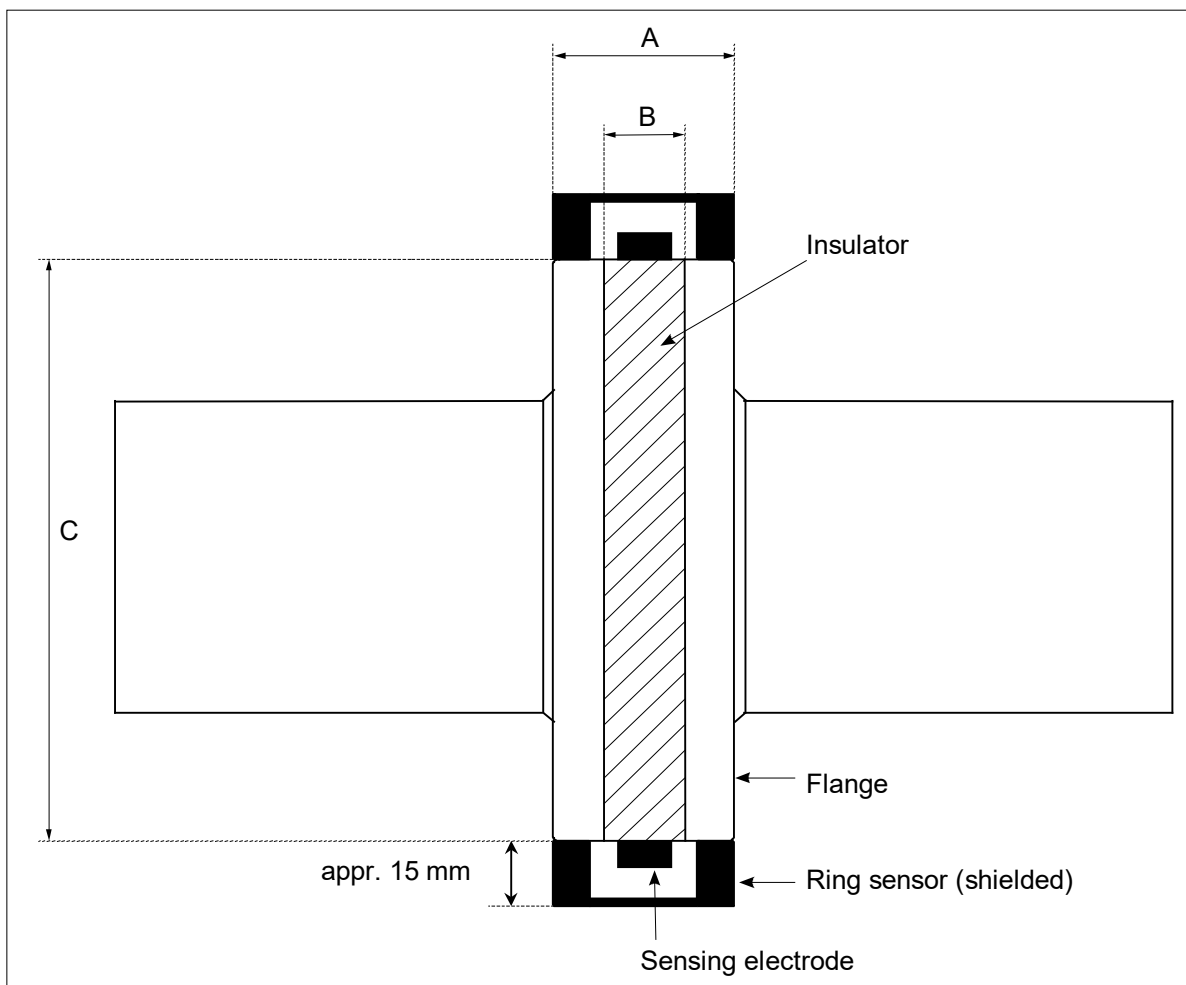

Fig. V.20 External flexible ring sensors for non-shielded spacers
- External ring sensors, wrapped around non shielded support insulators (figure V.20).
Flexible ring sensors are available for all sizes of GIS. Keep in mind that this type of sensor is applicable with non-shielded support insulators, only. Such flexible ring sensors are tailor-made with respect to the dimensions of the GIS to be equipped. Required dimensions to be specified are the flange width (A), the insulator thickness (B), and the flange diameter (C), or the flange's circumference (figure V.20).